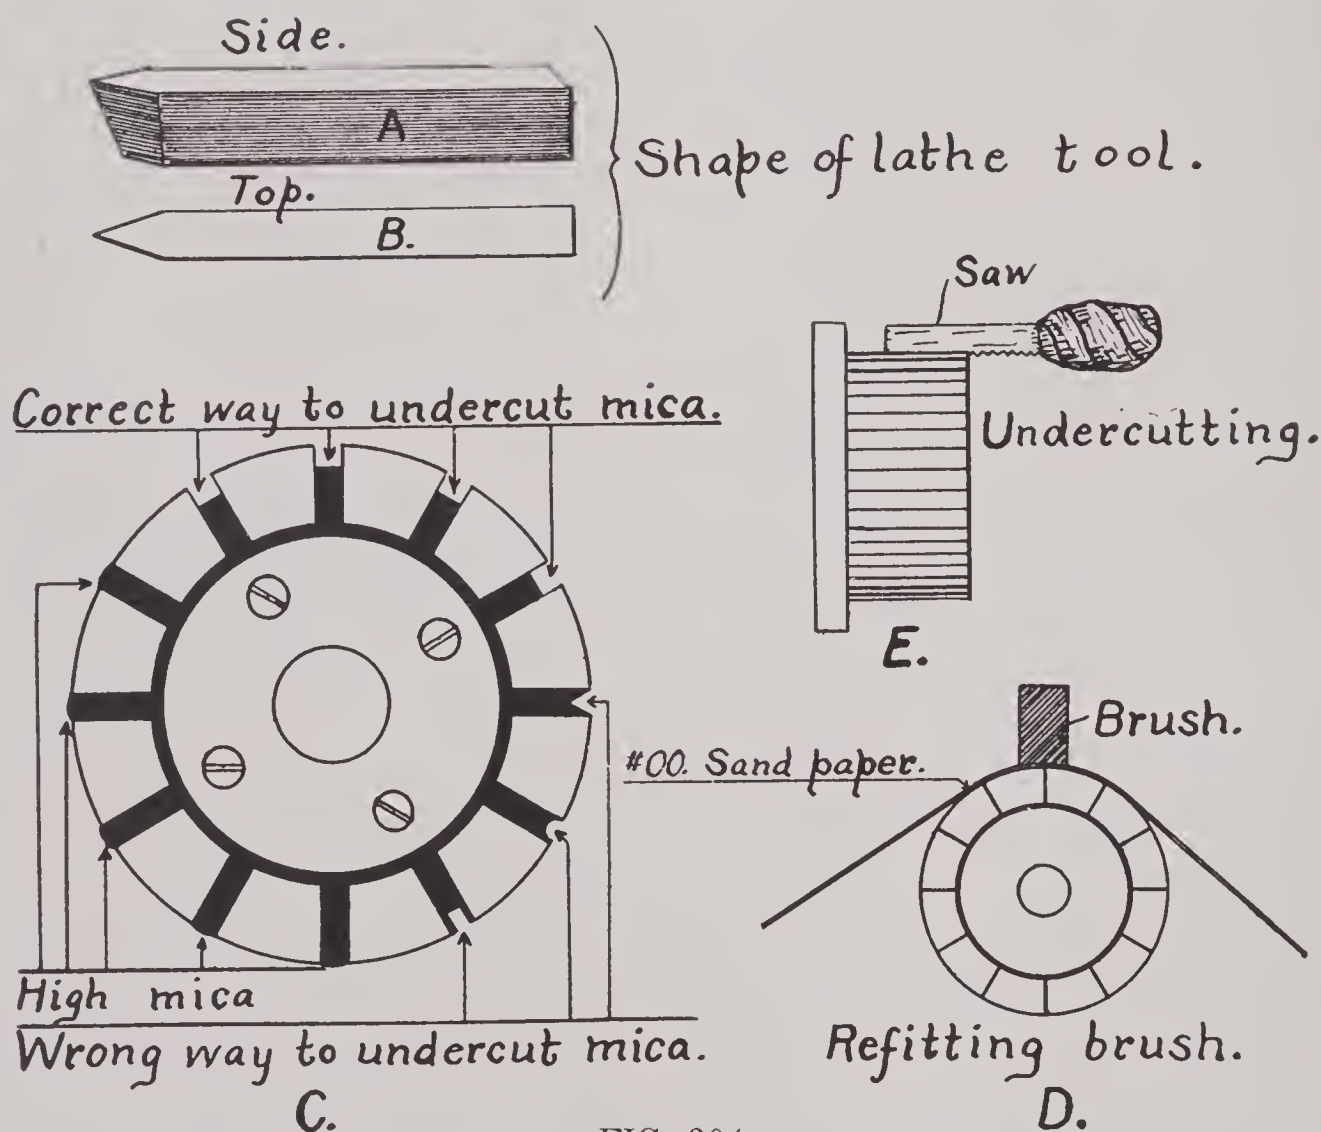

FIG. 304
To true up a commutator, it should be placed on the centers of a lathe and the surface turned off until it is accurate. The shape of the lathe tool is shown at the upper left in Fig. 304. It should have a keen diamond shaped point of approximately the shape shown in the illustration. Light cuts should be taken until the surface is made accurate. When making the last or finishing cut, the tool should have a very keen edge and the cutting point should be rounded slightly with an oilstone.
The finishing operation, after the final cut has been made, may be done with fine sandpaper. After the turning operation is completed, the mica between copper segments should be "undercut." The proper way to undercut the mica segments is shown at (C). The mica should not be undercut below the surface of the copper bars more than $\frac{1}{32}$ ". This may be done with a piece of hacksaw blade with a suitable handle. (See (E) in Fig. 304.) If the hacksaw blade is too thick to fit between the copper segments, grind the sides of the blade on an emery wheel.